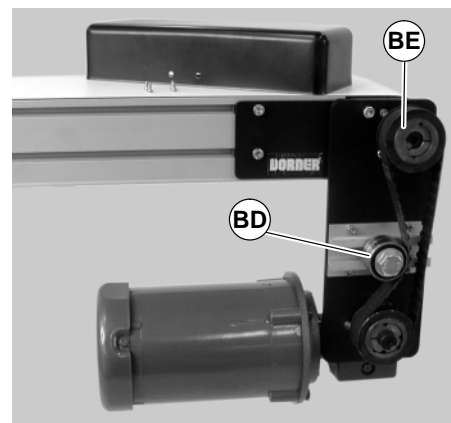
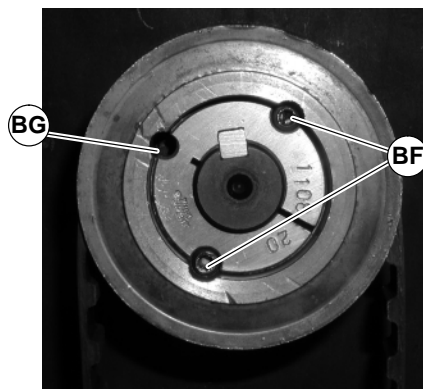

Figure 41
Figure 42
- 3) Loosen tensioner (BD of Figure 41).
- 4) Remove taper-lock screws (BF of Figure 42) on the driven pulley (BE of Figure 41). Insert one (1) of taper lock screws (BF of Figure 42) in remaining hole (BG). Tighten screw (BF) until pulley is loose. Remove pulley, taper hub assembly and timing belt.